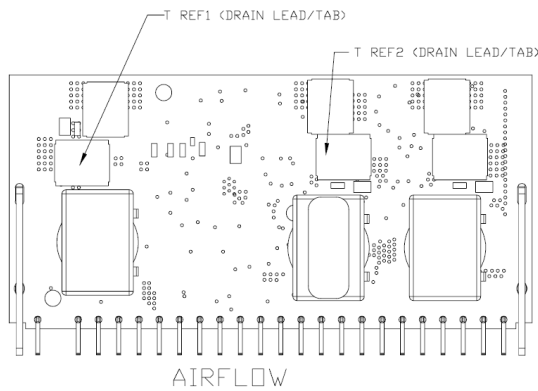

Figure 45. Temperature measurement locations  $T_{ref1}$  and  $T_{ref2}$ .
The thermal reference points,  $T_{ref1}$  and  $T_{ref2}$  used in the specifications are shown in Figure 45. For reliable operation this temperatures should not exceed 120°C.